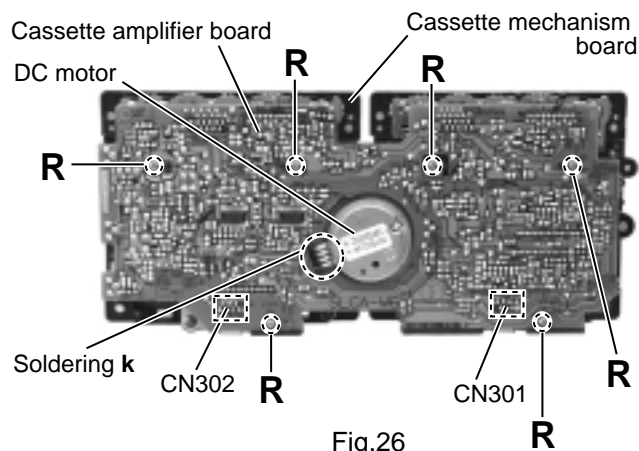

Fig.26
■ Removing the cassette amplifier board (See Fig.26)